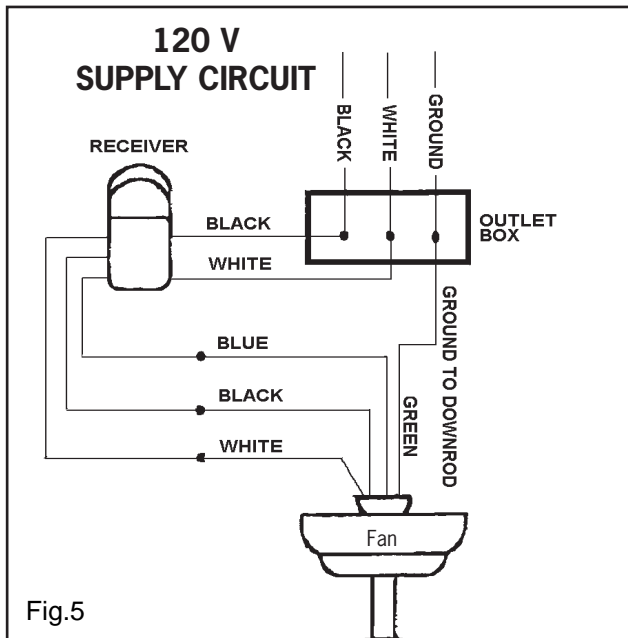

Fig.5
**A** Make the following wire connections to the receiver unit (see fig. 5) using the wire nuts supplied.